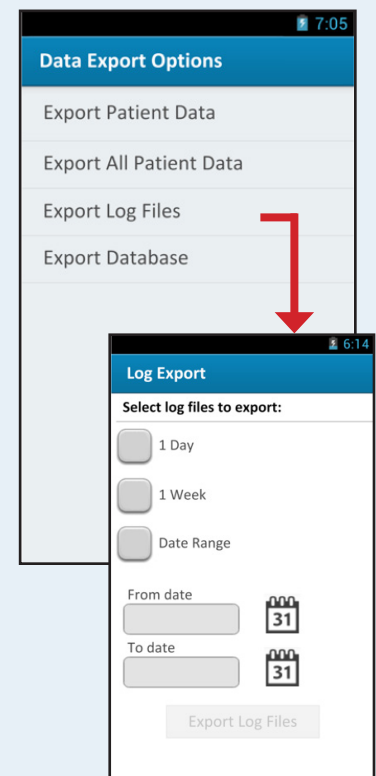

Figure 5-18:
2. Press **ADMINISTRATOR SETTINGS** and log in to the device. Press **Data Export Options** and a menu of options will display (Figure 5-18).